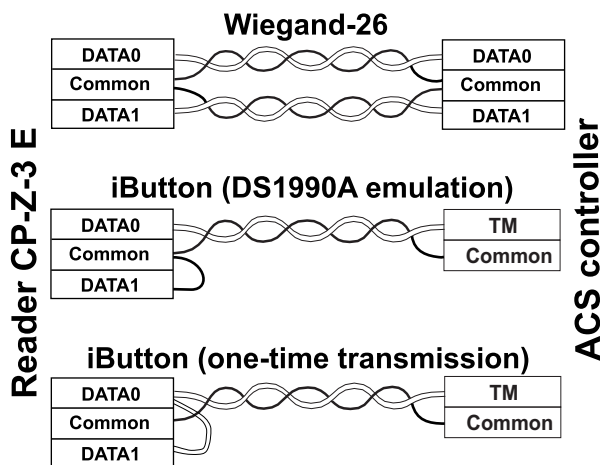

Fig. 1 Transmission protocol selection
- When connected via Wiegand-26, the first twisted pair is connected to GND and DATA0 and the second twisted pair is connected to GND and DATA1 (see Fig. 1).